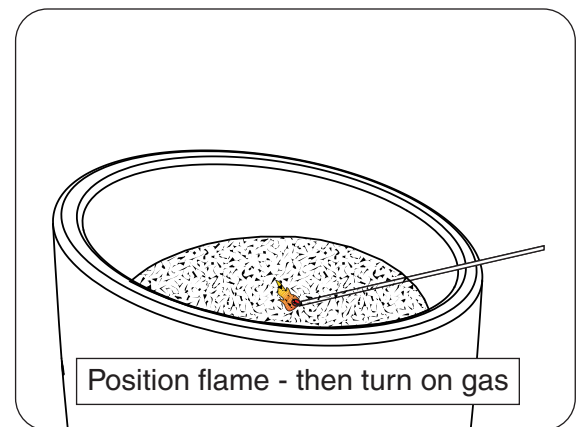

Fig. 27-1
3. Light a long-stem match or a long-necked butane lighter, and place the flame against the surface of the decorative media near the burner (Fig. 27-1).